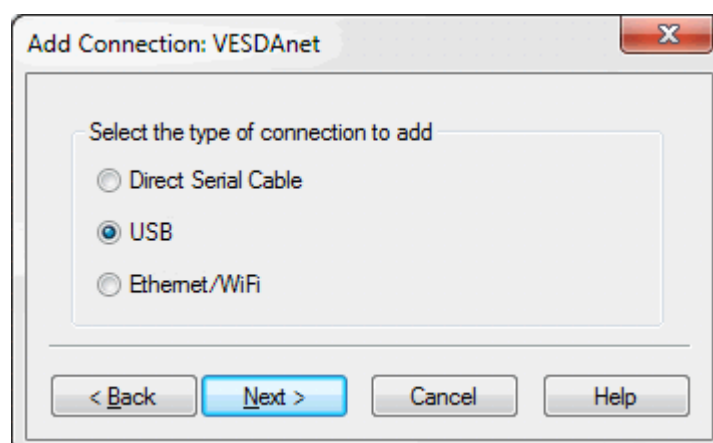

Figure 5-3: Select USB
1. Select **USB**, then select **Next** (Figure 5-3).